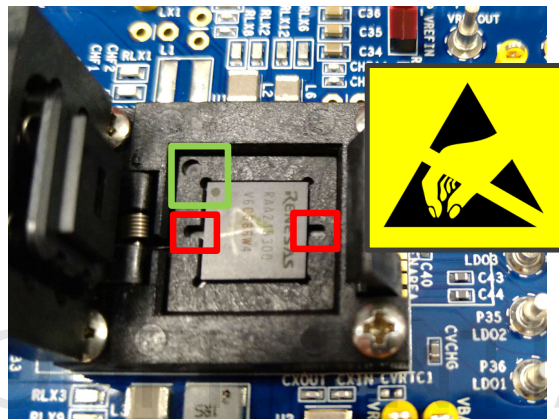

Figure 3. PMIC Orientation and Tweezer Access
Renesas recommends using a vacuum suction tool to lift and place the PMIC. If using tweezers, use only light force. There are slots in the socket for tweezer access. See the red boxes in Figure 3.
2. Ensure correct orientation of the PMIC in the socket. The socket is marked with a circular recess. The PMIC is marked with an etched circle at pin 1. See the green box in Figure 3.